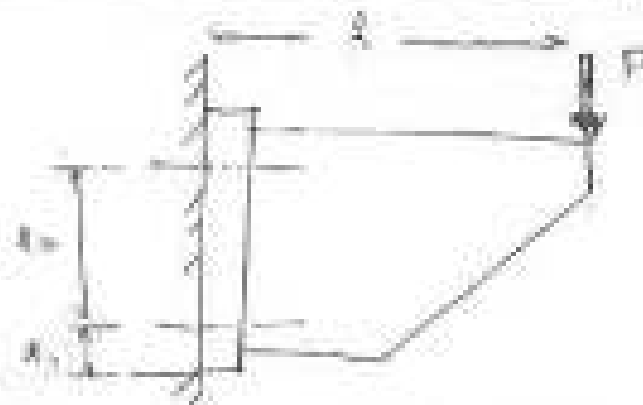

Fig. 2b
- b) A cast iron bracket is fixed to the steel structure as shown in figure 2b. It supports a load  $P$  of 30kN. There are two bolts at A and two bolts at B. The distance are as follows:  $L_1 = 50\text{mm}$ ,  $L_2 = 300\text{mm}$  and  $L = 600\text{mm}$ . Determine the size of the bolts, if maximum permissible tensile stress in the bolt is  $50\text{N/mm}^2$ . [8]